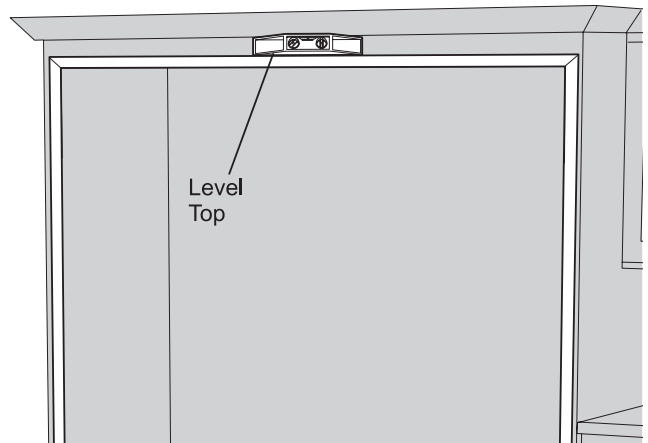

Figure 5
- Making sure the frame is flush up against the front surface of cabinetry, carefully run one mounting screw (M) through the center hole of the top trim (A) and into the cabinetry. **DO NOT TIGHTEN AT THIS TIME.**
- Level the top of the trim frame using a carpenter's level. See Figure 5.